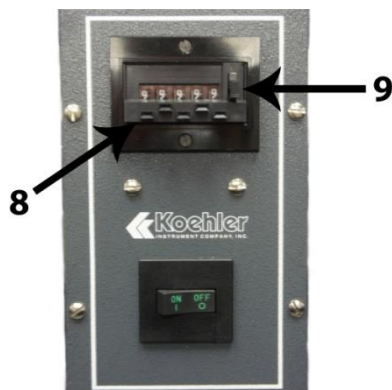

Figure 3: Electronic Counter Descriptions
2. **Electronic Counter.** Counter can be pre-set for a number of strokes up to 99,999. Each stroke of the grease worker will result in a deduction in number from the counter. The counter is comprised of individual set point buttons (Figure 3, Item 8) and a reset/preset button (Figure 3, Item 9). Refer to Section 5.2 for full operational details. Please see Figure 3 below.
1. To set desired number of strokes, depress and push up the reset button (**Figure 3, item 9**) and hold. Set in the number of times using the individual counter set buttons (**Figure 3, Item 8**) until the correct number is set. When complete, release the reset button.